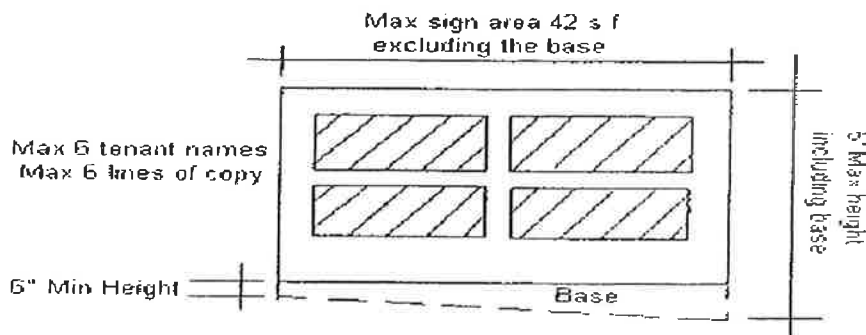

Figure 8- Office Building Ground-Mounted Monument
Office building tenants are not permitted exterior identification except in the form of the ground-mounted sign, therefore, office building ground-mounted signs may include the building name and up to six (6) tenant names with a maximum of six (6) lines of copy. It is recommended for ease of visibility and for tenant turnover that a maximum of two (2) tenants be identified on this type of sign. (See Figure 8)